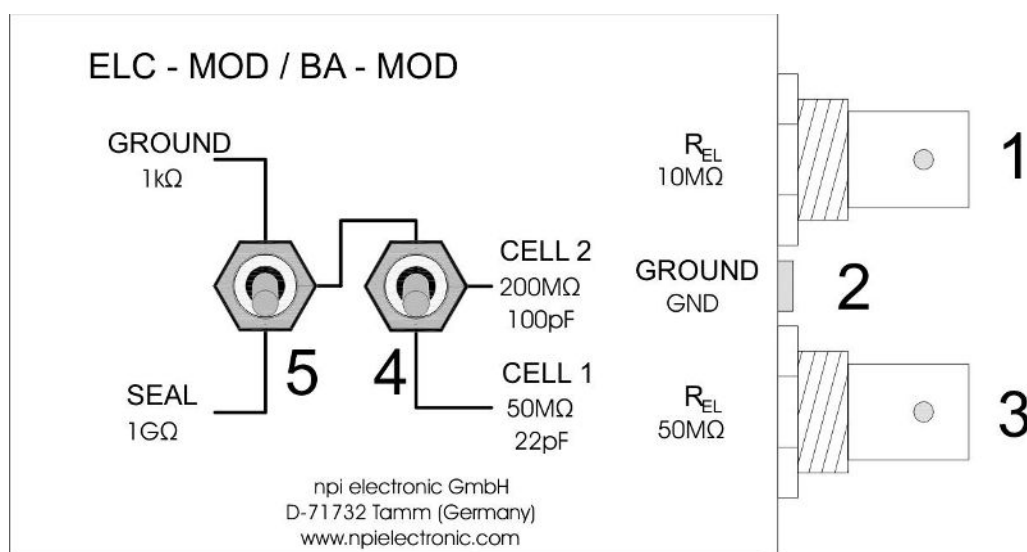

Figure 4: passive cell model
- o Set switch #4, Figure 4 to the upper position.
- o Set switch #5, Figure 4 to GROUND position. The $1\text{ k}\Omega$ resistor simulates the resistance of the bath solution. This can be used to train cancellation of offsets, using the bridge balance and using the capacity compensation.
- o Set switch #5, Figure 4 to SEAL position. The $1\text{ G}\Omega$ resistor simulates the SEAL resistance when forming a GIGASEAL in patch clamp experiments.
Intracellular recordings can be mimicked with one of two cells with different properties. Use the $50\text{ M}\Omega$ electrode connector (#3, Figure 4) for an experiment with sharp electrodes or the $10\text{ M}\Omega$ electrode connector (#1, Figure 4) for simulating an experiment with patch electrodes.
- o Switch the CELL membrane switch (see #4, Figure 4) to the desired position (CELL 1 or CELL 2).